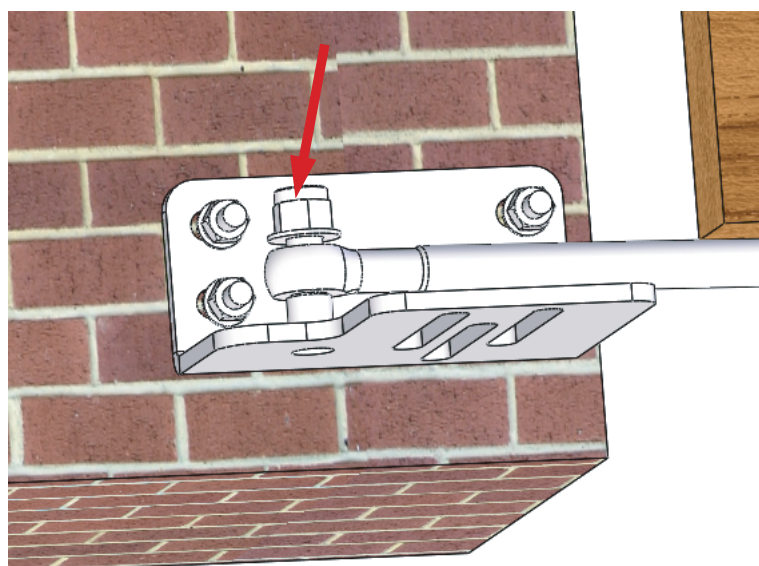

Fig 13
12. Test the effect of the installation of finished 2 leaves fold door. If it is not quite fixed. You could do adjustment by adjusting the extension length of the ② gear rack rod, the length of the ⑨ connection rod, the ① gate bracket etc as Fig 13.